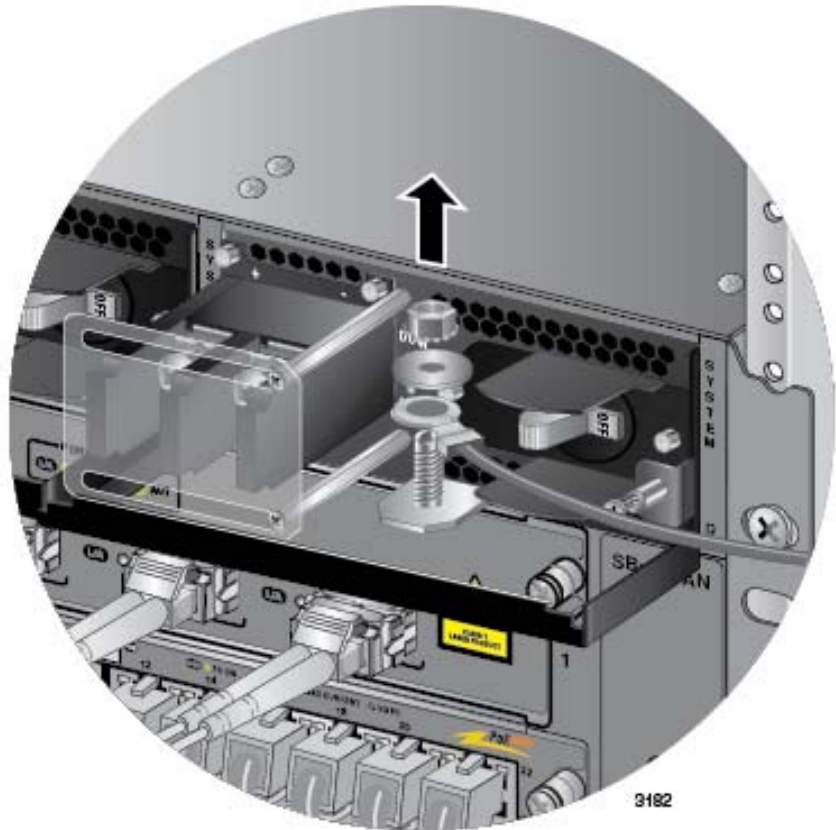

Figure 165. Removing the Grounding Wire
9. Use an 8 mm wrench to remove the grounding wire from the grounding post. Refer to Figure 165 on page 267.